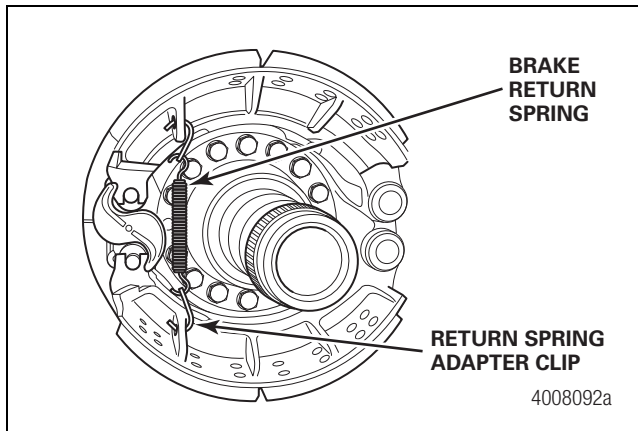

Figure 3.5
5. Disconnect the brake return spring and clips. Figure 3.5.